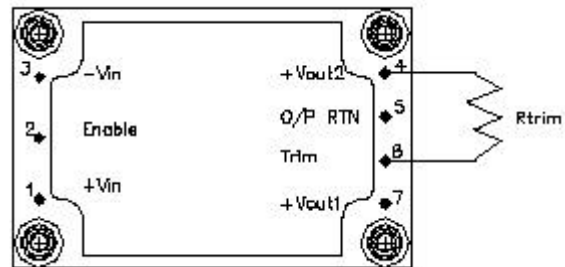

Figure 3. External Trim resistor setup to increase o/p.
6. See appropriate Trim Equation and configuration on Figures 3 and 4.